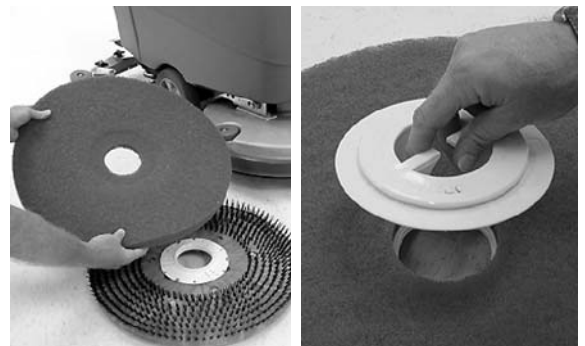

FIG. 8
3. Attach the pad to the pad driver before installing the driver (Figure 8). Secure pad with centerlock.